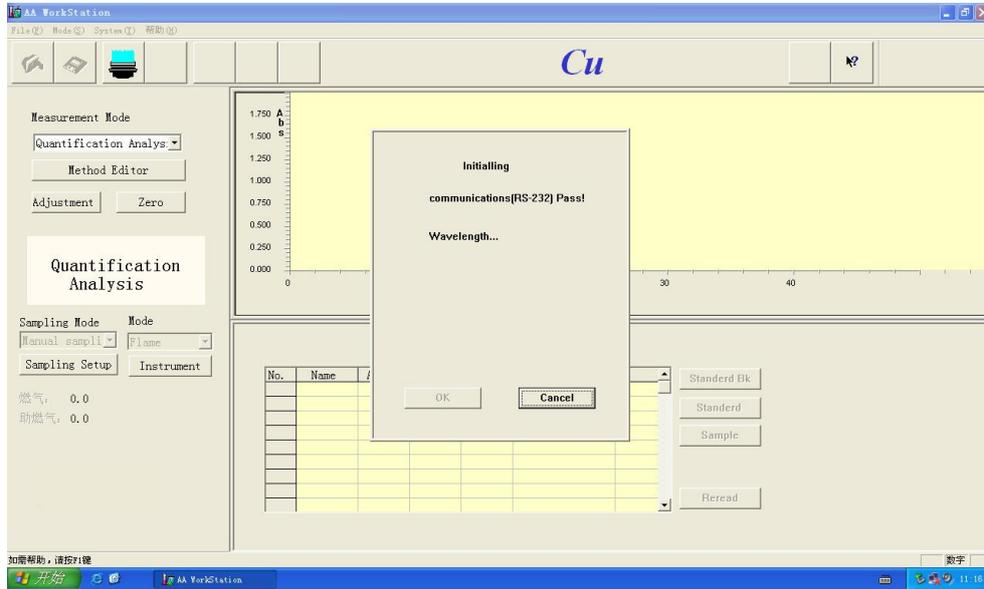

Figure 4-2
2. Click on “AAS” icon twice, open the workstation, it starts self-test (Figure 4-2)